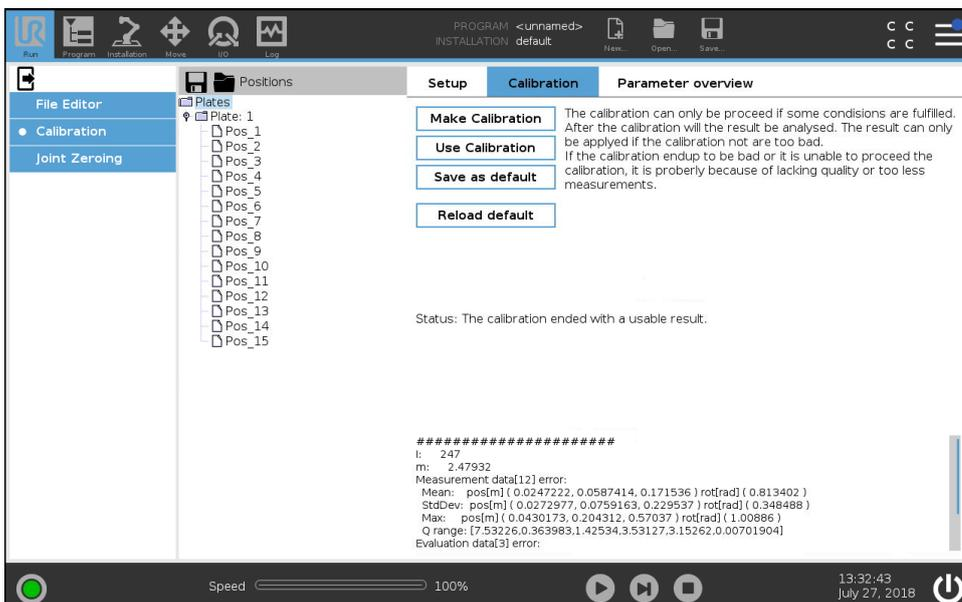

Figure 1.9: Calibration Tab options
- (16) Tap **Use Calibration** to try the new calibration without saving the new parameters as the default, (see Figure 1.9).
- (18) Tap **Save as default** to save the calibration parameters for future use, (see Figure 1.9).
- (19) The robot is now calibrated.